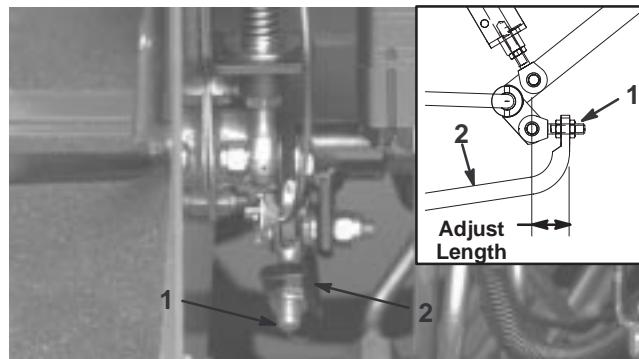

Figure 46
4. Adjust jam nuts on pump rod end to move pump control tube forward to eliminate forward creep or rearward to eliminate rearward creep (Fig. 46).